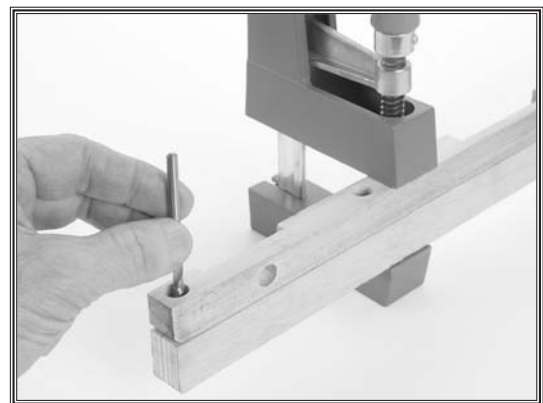

Figure 61. Marking location for mounting holes in new insert.
6. Use the included table insert as a template, as shown in **Figure 61**, to mark the mounting holes on the new table insert. (Clamping the pieces together while you do this will allow you to ensure the hole spacing is exact.)